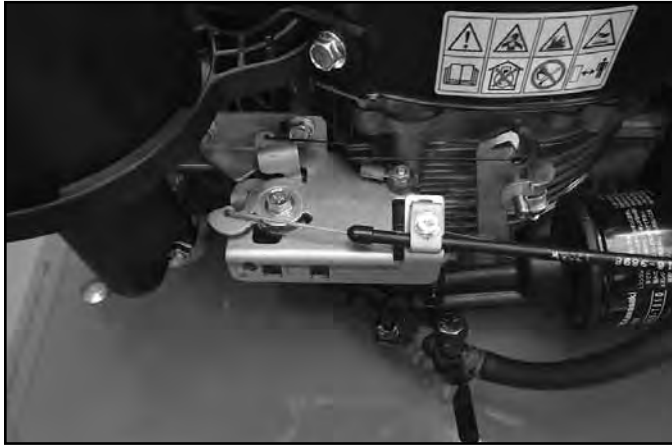

Fig. 136
2. Disconnect the throttle cable from the engine (Fig. 136).